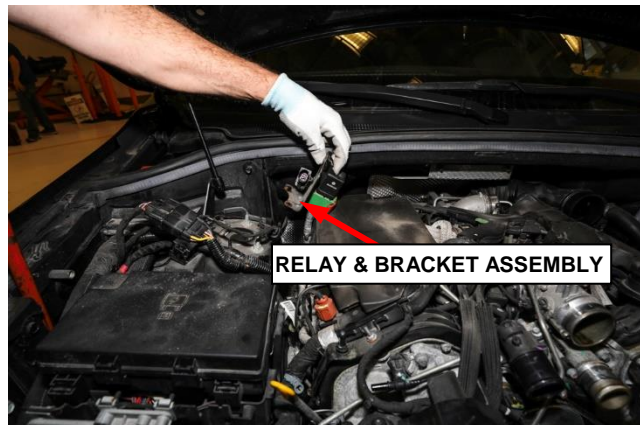

Figure 12 – Relay and Bracket Assembly
26. Remove the two nuts and relay and bracket assembly from the strut tower (Figure 12).